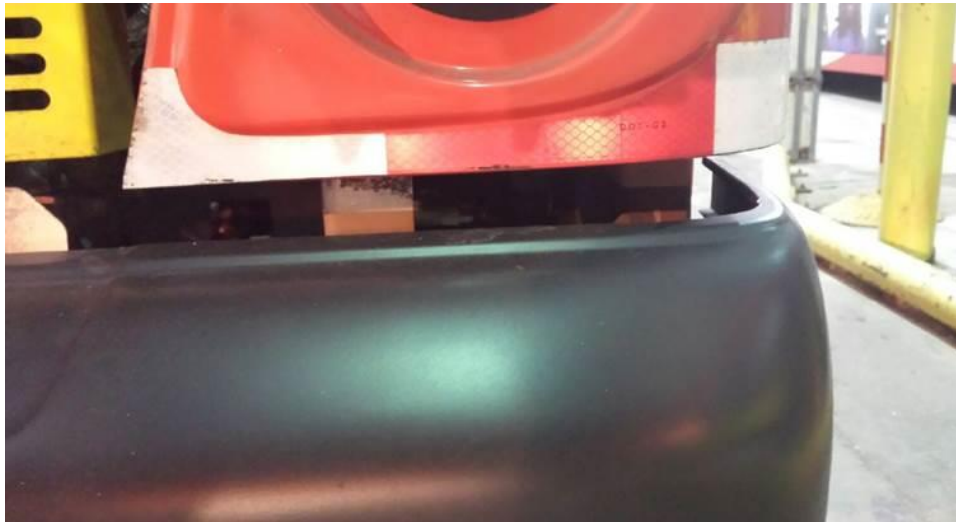

Figure 1: Large gap between the rear bumper and corner panel
2. At the rear bumper, check to see if there is a large gap between the bumper and the corner panel above the bumper also check if the mounting bolts are tight See Figure 1. Record all the inspection information on the inspection sheet in Appendix A on page four of this document.